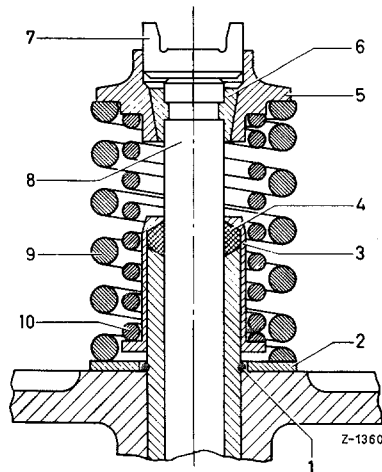

Fig. 01-4/20 c
A sealing ring holder (3) in the shape of a bell enveloping the valve guide is soldered to the valve spring plate (5) at the exhaust valve (8). The rubber sealing ring (4) is inserted into sealing ring holder from below (Fig. 01-4/20 d).
Valve stem sealing at inlet valve (8) is effected by a sealing ring holder (3) by means of a Silicon sealing ring (4). The sealing ring holder is pushed over the valve guide and held in place by the inner valve spring (10) (Fig. 01-4/20 c).